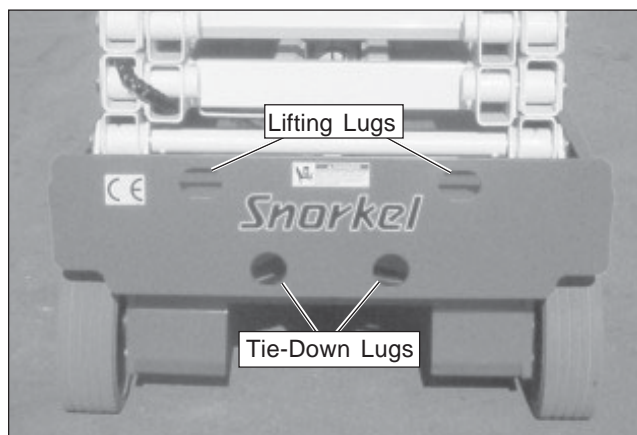
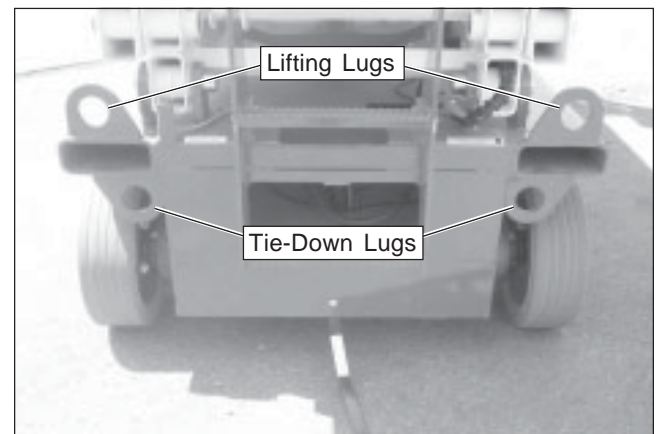

Figure 10.5 – Front of Chassis
Figure 10.6 – Rear of Chassis
8. Attach the winch line to the tie-down lugs (refer to Figure 10.5) on the front of the chassis.
2. Inspect the front lifting lugs (refer to Figure 10.5) and the rear lifting lugs (refer to Figure 10.6) to make sure they are free of cracks and are in good condition. There are two lugs on the rear of the chassis and two on the front. Have any damage repaired by a qualified service technician before attempting to hoist the machine.